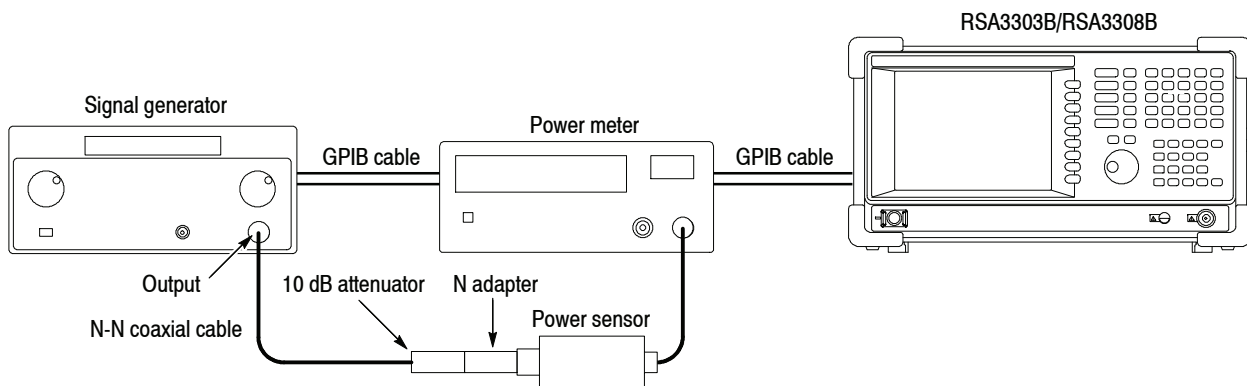

Figure 4-4: Initial test hookup
See Figure 4-4.
- a. *Modify the hookup:* Connect the signal generator output through an N-N coaxial cable followed by a 10 dB attenuator and an N adapter to the power sensor input. See Figure 4-4 on page 4-10 again.